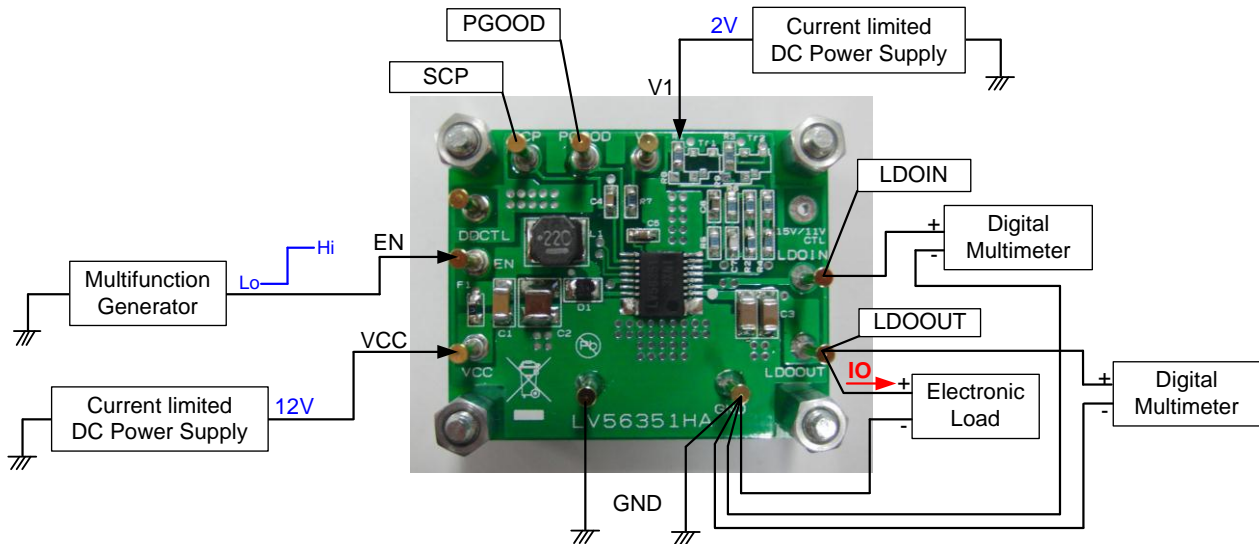

Figure 4: Test setup
- (1) Connect the test setup as shown in Figure 4
- (2) Apply 12Vdc to VCC.
- (3) Apply 2Vdc to V1.
- (4) Apply Low level (0V) signal to EN.
- (5) Check that LDOIN=0[V] and LDOOUT=0[V].
- (6) Apply IO(load)=0[A] to LDOOUT.
- (7) Apply High level (2V) signal to EN.
- (8) Check that LDOIN=17.5[V] and LDOOUT=16.5[V]
- (9) Set IO to desired level, 0[mA] – 300[mA], and measure LDOOUT voltage and LDOIN voltage.
- (10) Apply Low level signal to EN.
- (11) Turn off IO(load).